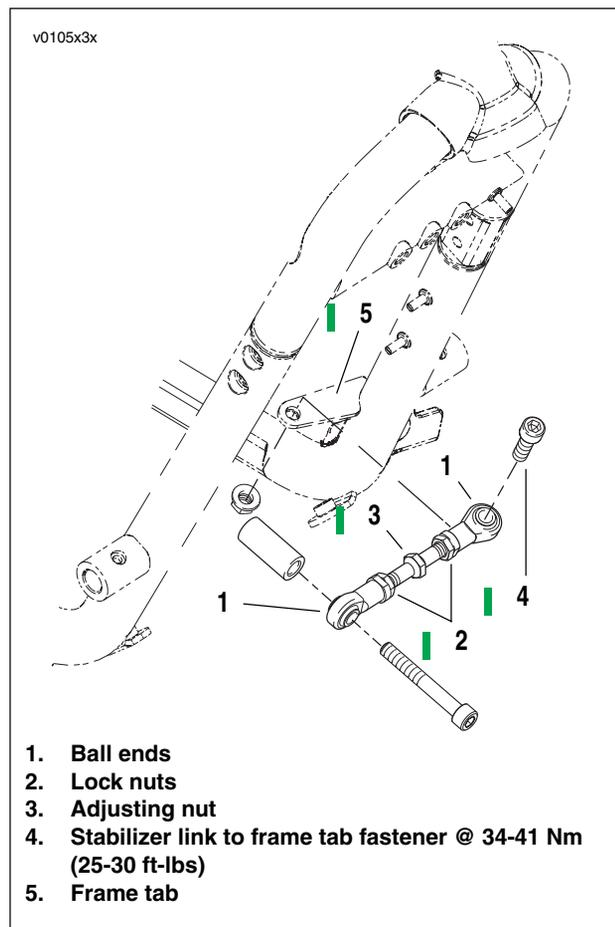

Figure 2-90. Engine Stabilizer Link
2. See Figure 2-90. If the front and rear wheels are out of alignment, loosen and remove the engine stabilizer link from the tab on the frame. This allows the engine to center itself to the front and rear engine mounts.
4. See Figure 2-90. The stabilizer link fastener (4) should fit freely through the ball end of the link (1) and the frame tab (5). If it does not, loosen lock nuts (2) on the ball ends (1) and use adjusting nut (3) and rod to adjust length of stabilizer link until stabilizer link bolt fits freely through ball end (1) of stabilizer link and frame tab (5).
5. Tighten stabilizer link to frame tab fastener (4) to 34-41 Nm (25-30 ft-lbs).